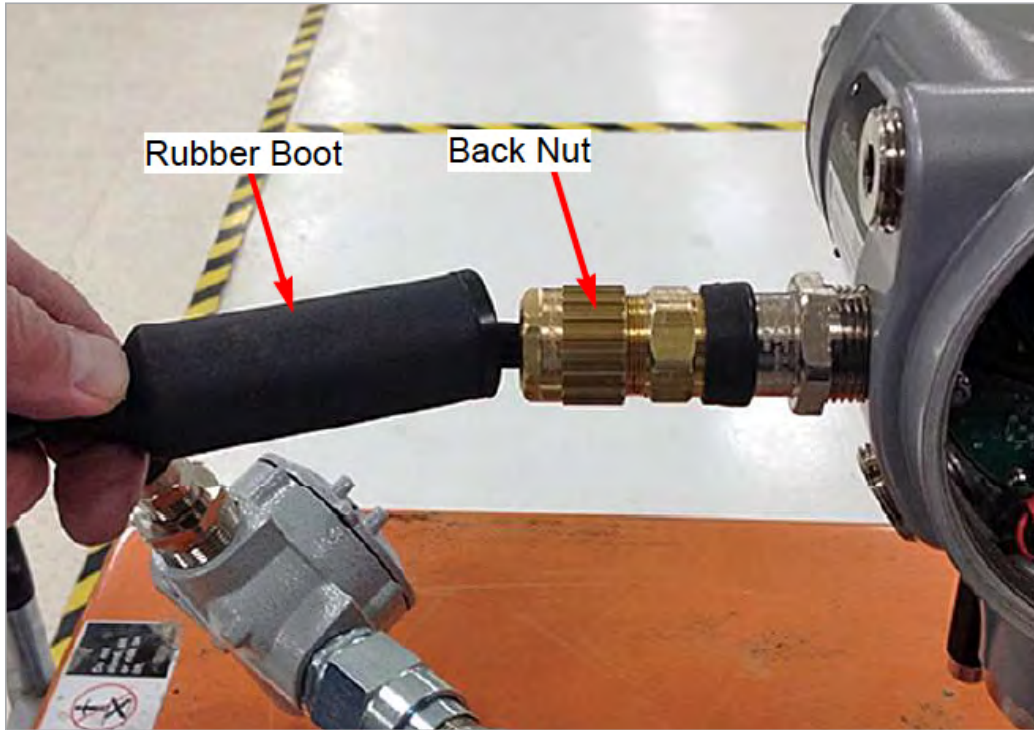

Figure 14: Sliding the rubber boot over the cable gland assembly
11. Slide the *Rubber Boot* down the cable and over the *Cable Gland Assembly* (see *Figure 14* below).